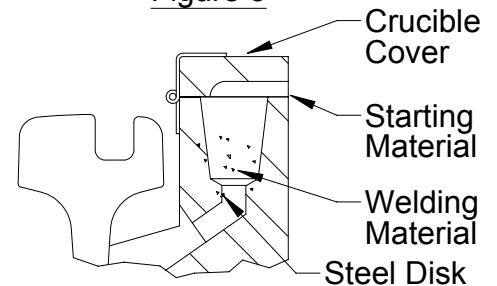

Figure 4
3. Dump contents of one welding material container into crucible being careful not to upset disk. See Fig. 4.
4. Tap welding material container to loosen starting material. Place a portion of the starting material on the top edge of mold at cover opening. Distribute the remaining starting material evenly over welding material and close cover. See Fig. 4.